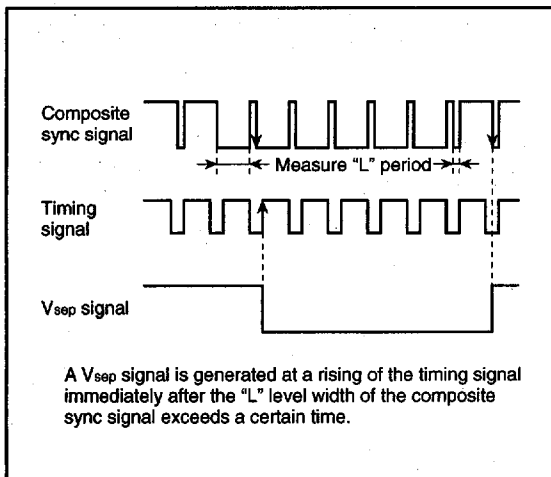

Fig. 21. V_{sep} generating timing (method 2)
- Method 2 The "L" level width of the composite sync signal is measured. If this width exceeds a certain time, it is detected whether a falling of the composite sync signal exits or not in the "L" level period of the timing signal immediately after this "L" level. If a falling exists, a V_{sep} signal is generated in synchronization with the rising of the timing signal (refer to Figure 21).
Figure 21 shows a V_{sep} generating timing. The timing signal shown in the figure is generated from the reference clock which the timing generating circuit outputs.